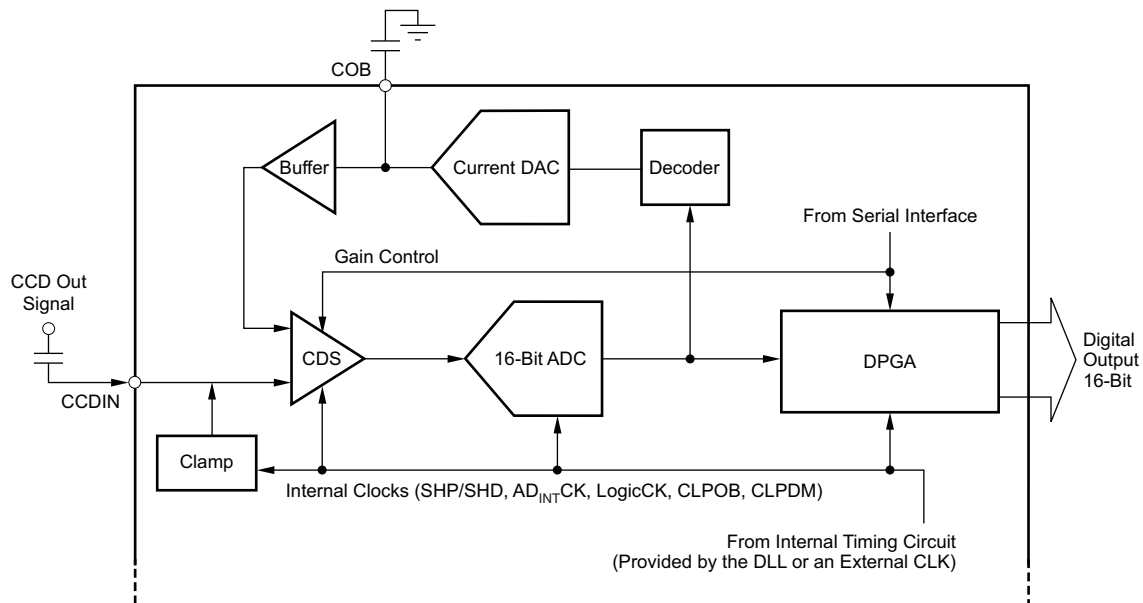

Figure 12. Simplified Block Diagram (Single Channel)
The VSP2590 is a dual-channel analog front-end device for processing imager output signals. A simplified block diagram is shown in Figure 12. The VSP2590 includes a sample/hold mode (S/H), programmable gain amplifier (PGA), analog-to-digital converter (ADC), input clamp, optical black (OB) level clamp loop, serial interface, timing control, and reference voltage generator. The device also provides a correlated double sampler (CDS) input mode. This CDS input mode consists of reconfiguration from the S/H circuit. The input mode is selected through the serial interface. Both the S/H and CDS modes provide analog gain for the input circuit.